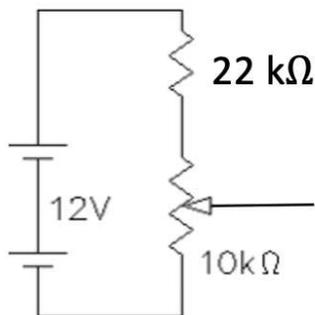

Fig. 6 A circuit with a resistor before the potentiometer.
4. **For** some applications, we may not want the output of the potentiometer to cover the full range of possible input voltages (from ground to the supply voltage). Instead, we may want the output voltages to extend over a narrower range of voltages. One way to solve this problem is to add a resistor in series with the potentiometer as shown in Fig. 6. In this example, there is a 10 k Ω potentiometer (its resistance can vary from 0 to 10 k Ω). How does adding a resistor solve the input range problem? (5pts)